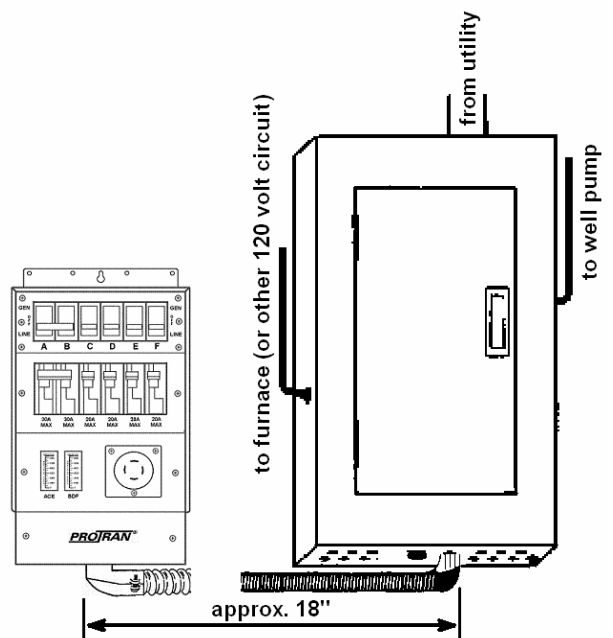

Figure 2
3. Locate and remove a knockout (ko) in the bottom of the load center (*Figure 2*). Use a 3/4" ko for 6-circuit models, and a 1" ko for 10-circuit models.